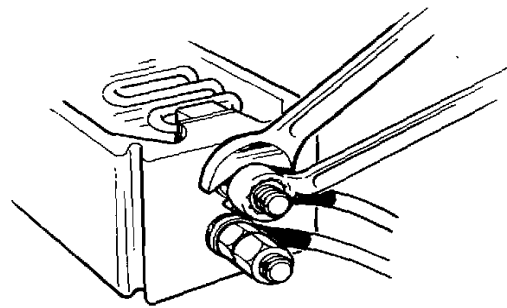

Fig. 52. Tightening the nuts on terminal bolts, TD60, TD70
**NOTE!** When tightening the nut on each terminal bolt, the bolt must be held still (fig. 52). Otherwise the wire element inside the pre-heater can be twisted and cause short-circuiting.